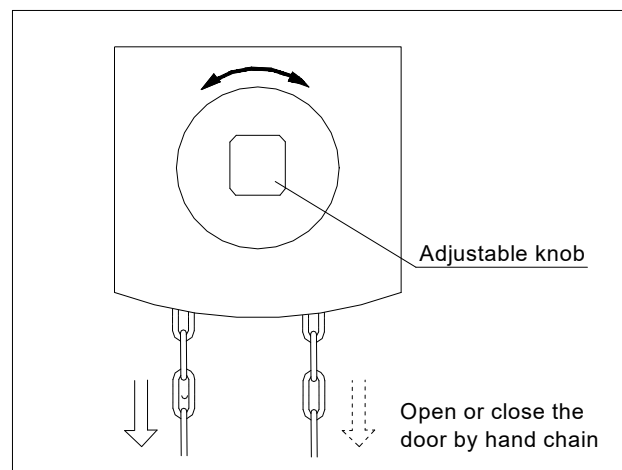

Fig.9
- In case of power failure, you can open or close the door manually by pulling the hand chain. See Fig.9
- Tighten or loose the knob by rotating clockwise or anticlockwise until the hand chain can open or close the door easily. See Fig.9